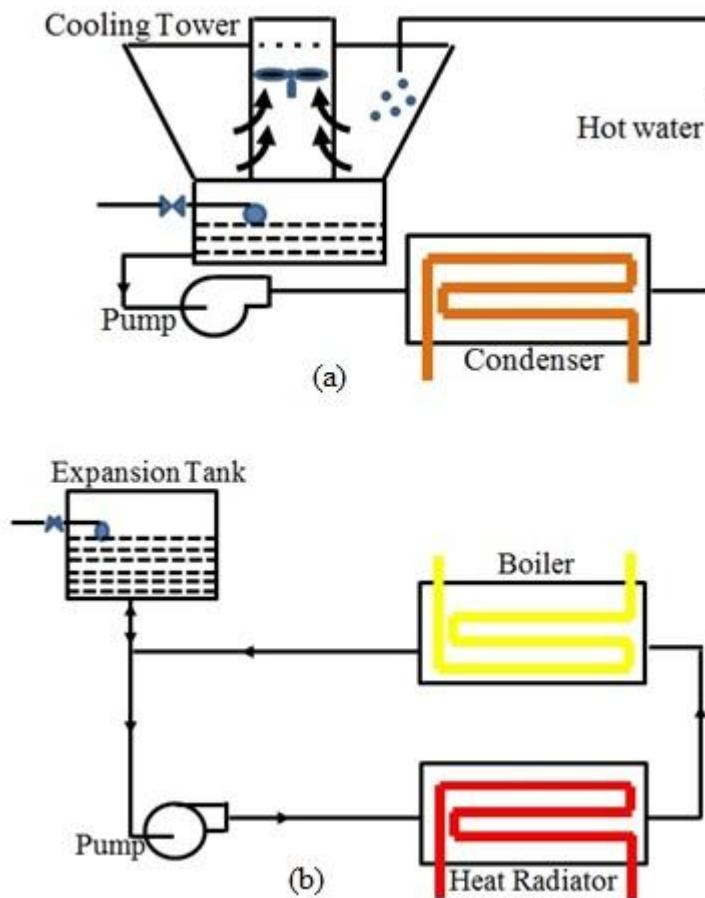

Figure 4-1 (a)Open type piping system, (b) closed type piping system
1. Open system figure 4-1-a
2. Closed system figure 4-1-b